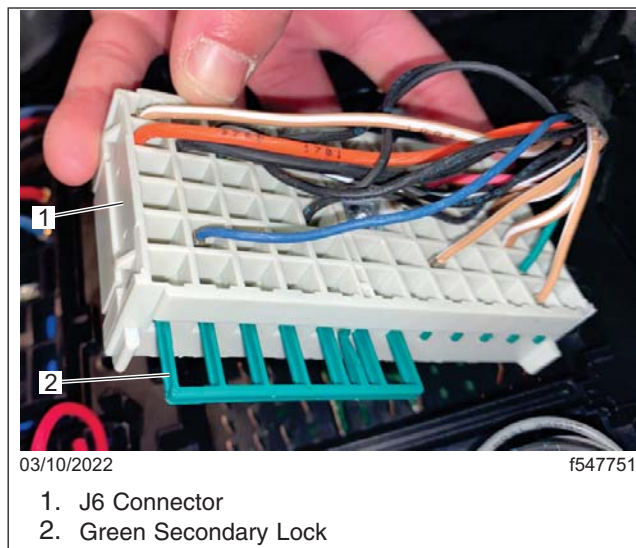

Fig. 16, J6 Connector Green Secondary Lock
11. Using a small screwdriver or similar tool, pull the green secondary lock for cavities 7 through 12 from the J6 connector. See Fig. 16.